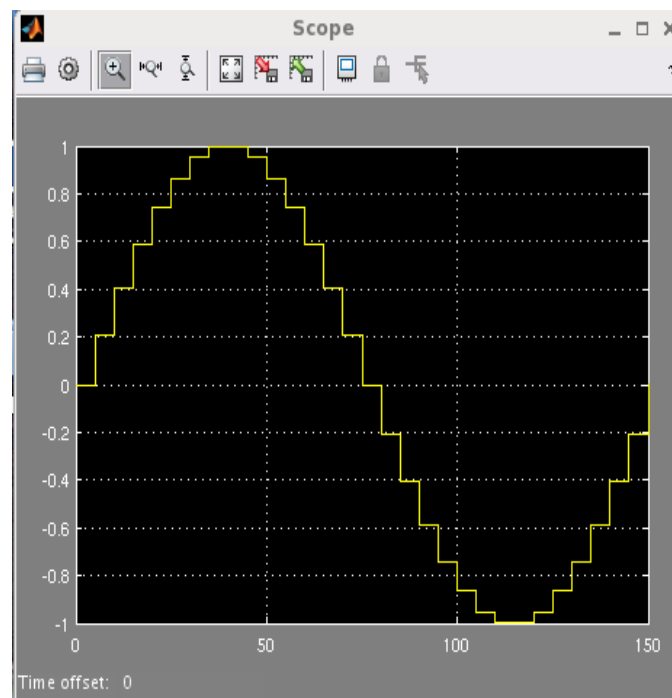

Figure 12: Simulation results using a Sample Time of 5.
13. We can specify a different value for the sample time of the Sine block( the default is 0 which causes the block to operate in continuous mode) by opening the Sine block and entering a non-zero value for the **Sample time**. Recall that we specified a sine wave with a period of 150s, if we enter 5 for the sample time, the block will now operate in discrete mode, producing a new sample every 5 seconds. It is readily apparent as we increase the sample time ( fewer sample per period), the greater the quantization error will be. Enter 5 as the **Sample time** and select OK and re-run the simulation to see the effects of sampling (refer to Figure 12).